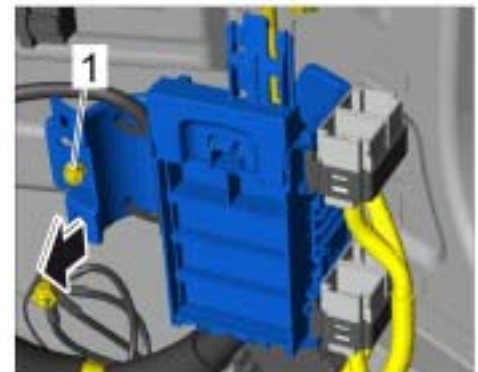

Figure 34
- 5.5.3 Unscrew and remove fastening nut ⇒ *Figure 34 -1-*.
- Remove fuse box holder ⇒ *Figure 34 -arrow-* and set it aside.